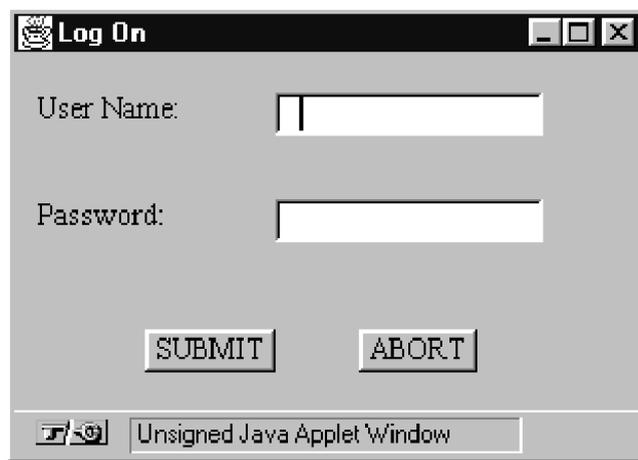

Figure 2-3. Log On Window
2. Enter **http://[IP address]/** in the Open Location window. When your Web browser locates the SA 100, it displays the Ascend logo followed by the Log On window. (See Figure 2-3.)
If you have logged on successfully, the Main menu of WebXtend appears (see Figure 2-3). If you entered an incorrect user name and/or password, an error message appears prompting you to try again.